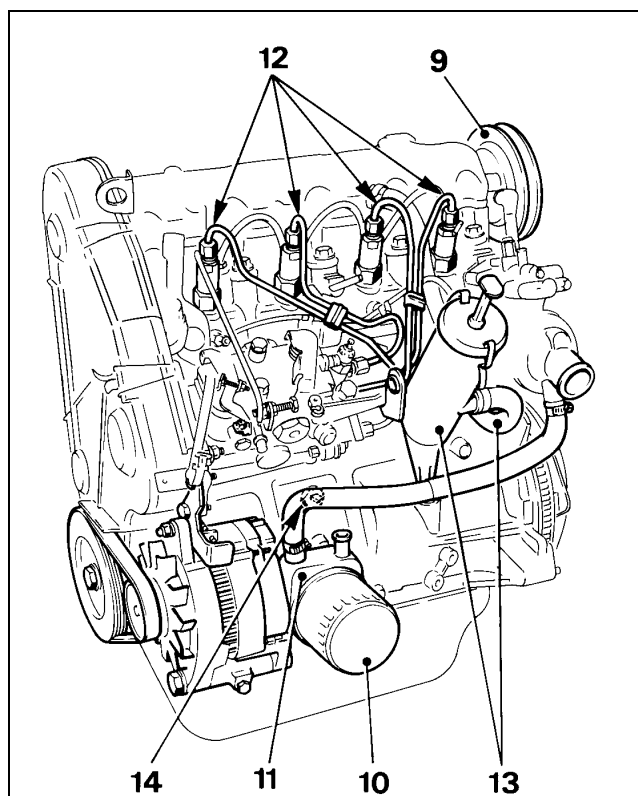

Figure 90
8. Install the breather pipe assembly, with oil filler pipes and filler orifice (Fig. 90, Item 13).